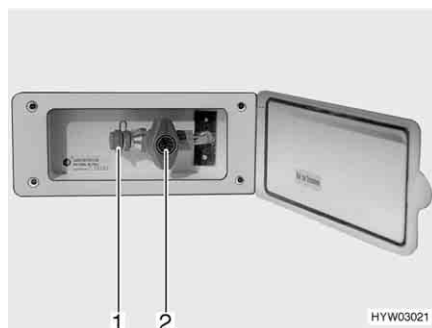

Fig. 108 External gas connection, gas isolator tap closed
The external gas connection (Fig. 108) is located at the rear or to the left or right of the vehicle depending on the model.
- Connect the external gas device to the connection point (Fig. 108,1).
- Open the gas isolator tap (Fig. 108,2).